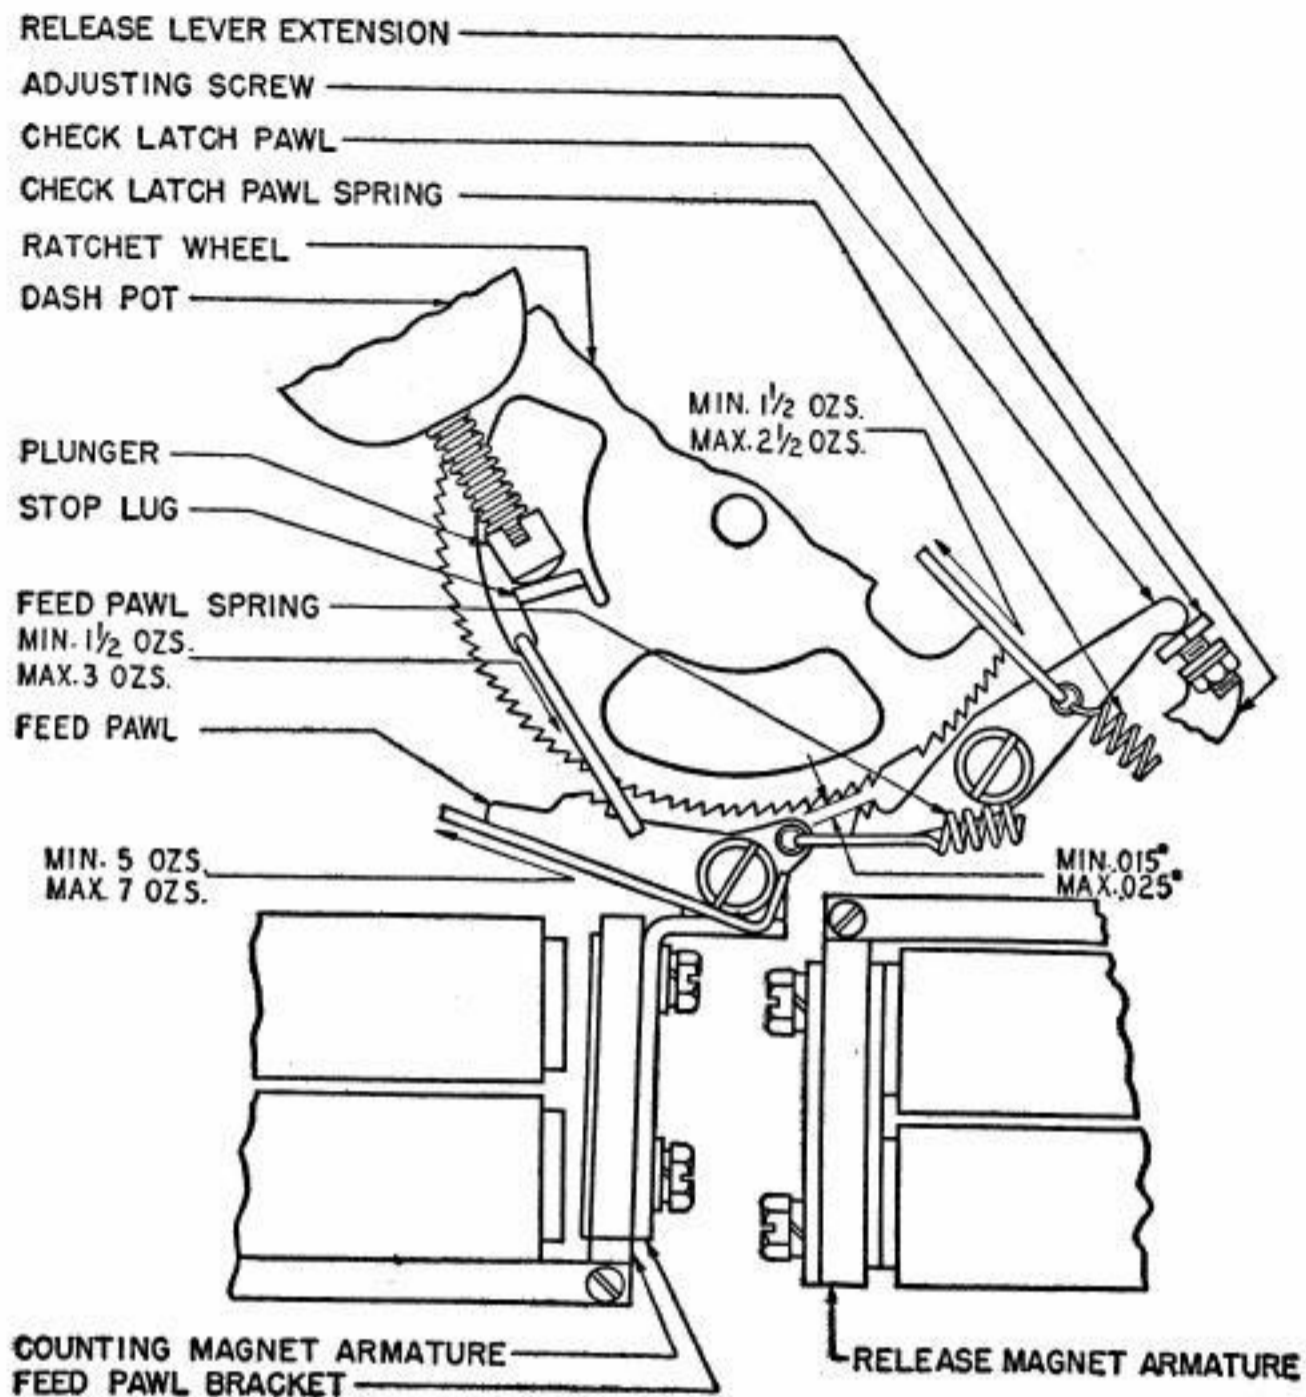

Fig. 24
(a) To adjust, remove the armature assembly from the unit. Set the screws which hold the bracket to the armature so that the bracket is friction tight, and put back the armature assembly on the unit. Adjust the bracket for the correct position of the pawl, remove the armature assembly, and tighten the bracket mounting screw. Replace the armature assembly. **Fig. 24**
(a) The adjustment for requirement (1) above should be made with the dashpot removed while testing for requirement (2). Wind the ratchet spring by turning the ratchet in a counterclockwise direction until the spring is tight. Rotate the ratchet in a clockwise direction less than two but more than one complete revolution. Position the ratchet so the stop-lug is approximately in the center of the lower left-hand quadrant. Engage the latch pawl to hold the ratchet in place. Put back the dashpot and position it so the stop-lug is in full engagement with the plunger throughout the plunger stroke. **Fig. 24**
(a) To gauge, manually operate the release magnet and hold the dashpot plunger depressed. Pull in a counterclockwise direction as indicated in the figure. **Fig. 24**